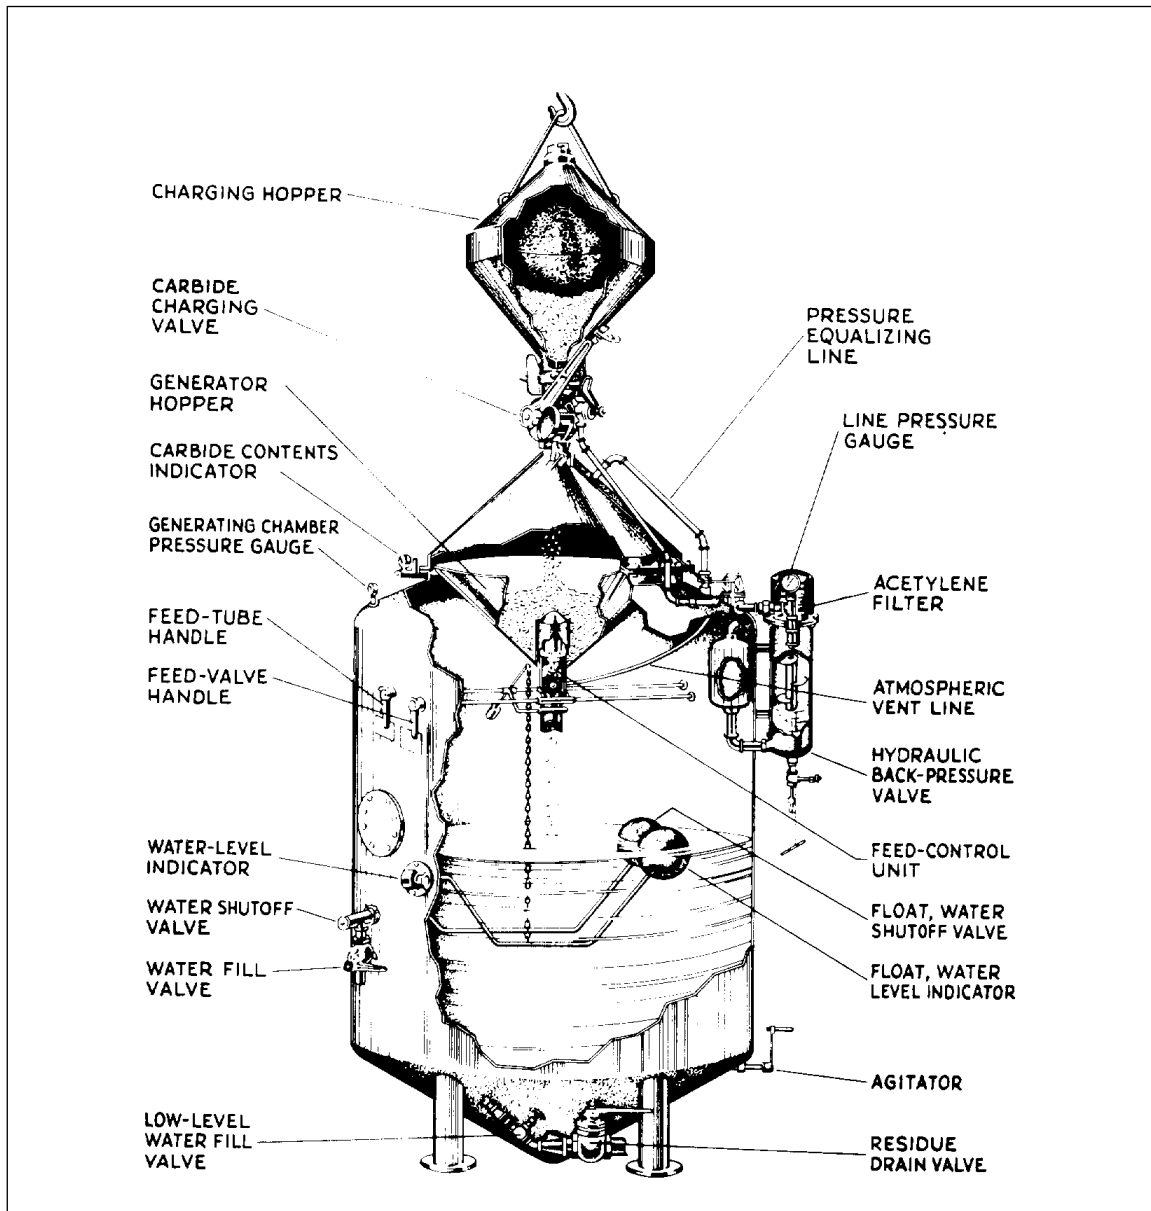

Fig. 5. Stationary medium-pressure acetylene generator, carbide to water. Charging hopper is attached only during recharging.
1. **Carbide to Water.** Carbide in small fragments is gradually added to a large quantity of water (Fig. 5).